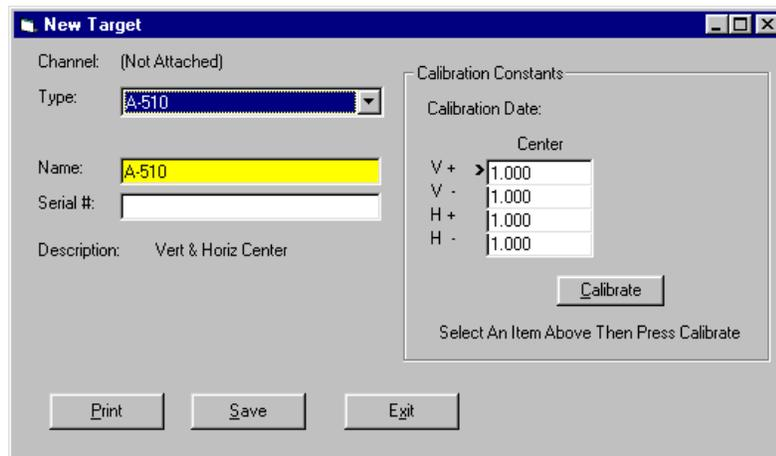

Figure 46 - New Target Screen – 2-axis Target
Click the **New Target** button. The New Target screen displays (see **Figure 46**).
1. **For the first reading, (in this case V+), center the target using the centering micrometer. This corresponds to Step 1 on the Calibration Screen (see Figure 46).**
The Calibration Constants menu for center-and-slope targets requires that four calibration factors for center and four calibration factors for slope be entered (compare with **Figure 46**. The procedure is the same as that for calibrating a center-only target, however the calibration factors for slope are obtained by using the angle micrometer.